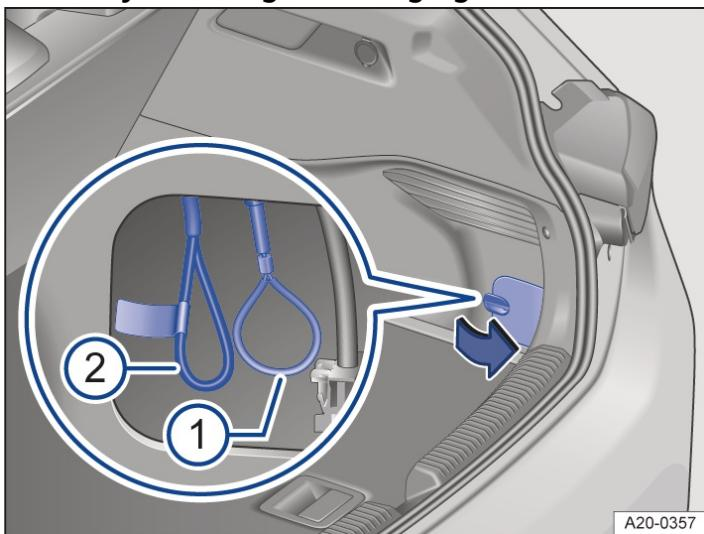

Fig. 1 Behind a flap in the right-hand luggage compartment trim: Manual release mechanism for the charging connector (1) and emergency cut-out connection (2).
- Open the luggage compartment. On the bottom right there is a flap with a catch → Fig. 1.
- Pull the loop for the manual release mechanism → Fig. 1 (1). The loop does not have a tag → (1)! The charging connector can now be removed → .
There is a fuse loop for the high-voltage system for use by emergency services directly next to the loop for manual release → *Fig. 1* 2. The fuse is marked with a yellow tag → 1.